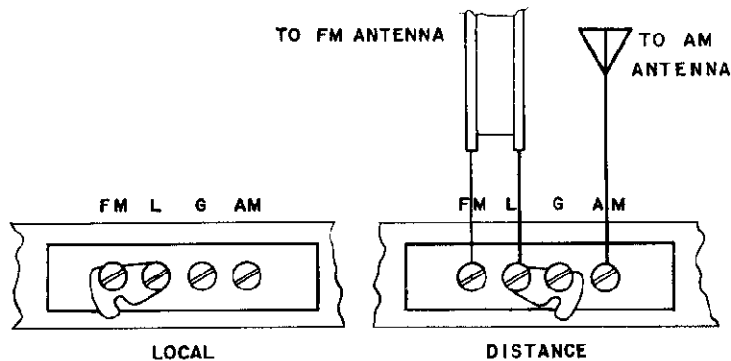

FIGURE 2
**ANTENNA CONNECTIONS:** The built-in antennas in your Stradivarius are sufficient for excellent reception in almost all locations for both AM and FM. In areas of difficult reception, outdoor antennas may be required. Connections should be made as shown in Figure 2.